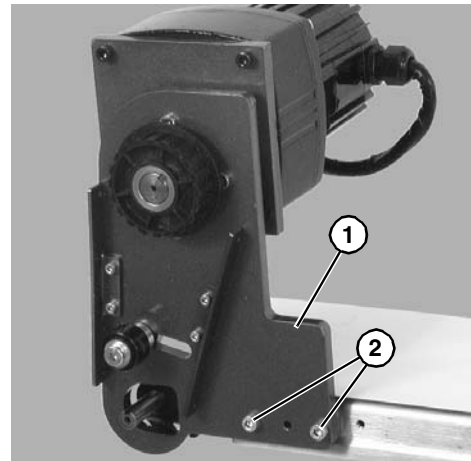

Figure 11
5. Attach mount assembly (**Figure 11, item 1**) with screws (**Figure 11, item 2**). Tighten screws to 80 in-lb (9 N-m).